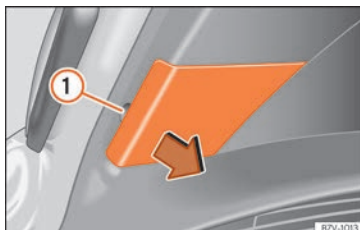

Fig. 113 On the rear lid: remove the cover.
2. Extract the cover carefully using the flat part of the screwdriver from the vehicle tool kit as a lever »» Fig. 102) on the indent »» Fig. 113 ①.